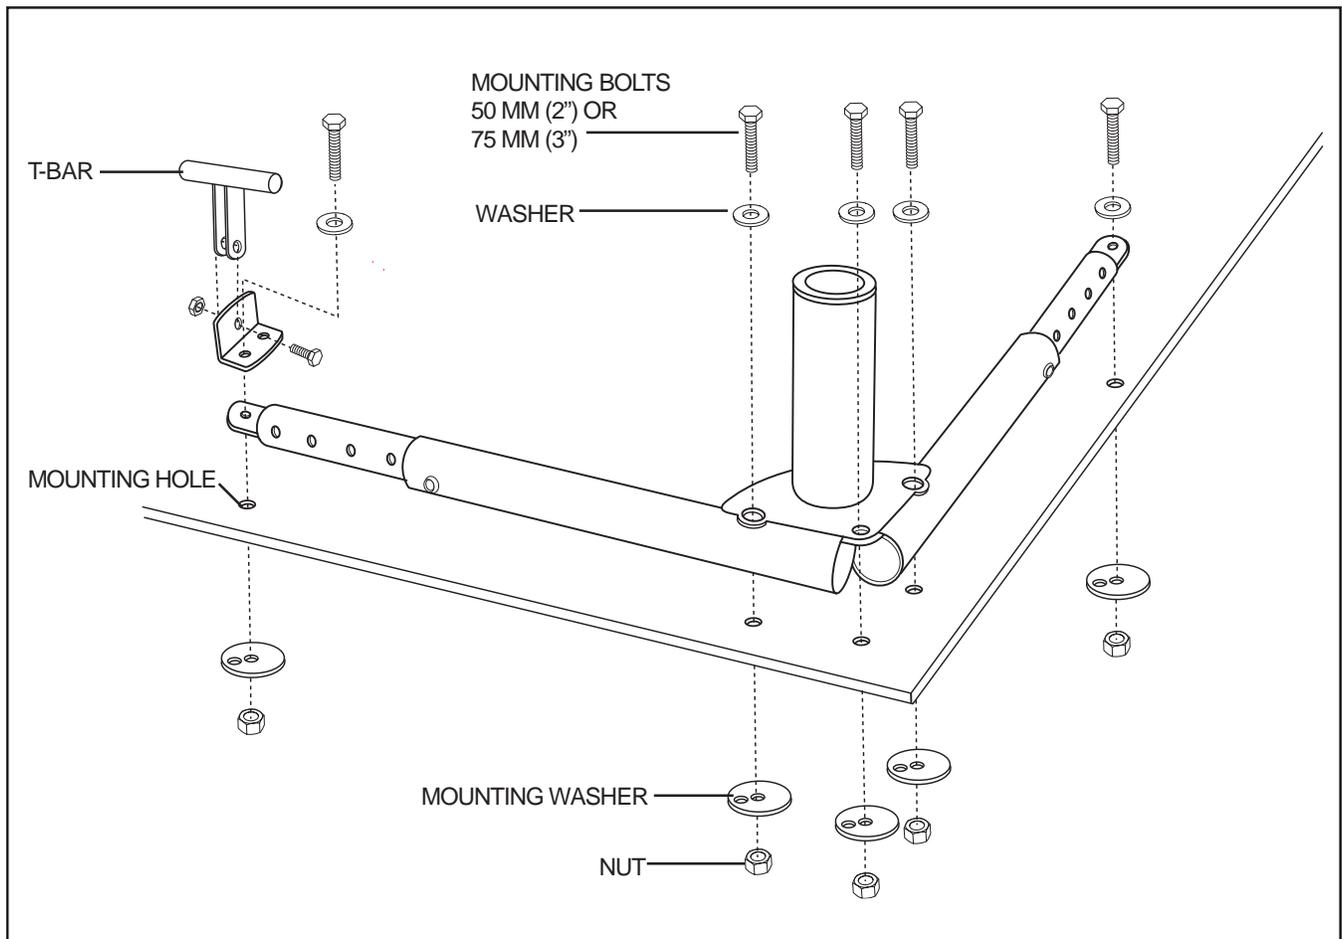

Figure 9. Securing The L-Base
1. Inspect the undercarriage of the vehicle where the lift L-base is located for obstructions that may hinder the installation of the five (5) mounting bolts that will secure the L-base to the vehicle. Obstructions may consist of electrical wiring, gas tank, bumper mounts, or exhaust pipes. You may need to adjust the base extensions to clear obstructions. If possible, install the L-base with the base extensions fully extended. See **figure 9**.
2. If all is clear under the L-base, mark the position of the five (5) mounting holes and drill them using a 3/8-in. drill bit. Drill all mounting holes from inside the vehicle. **See figure 9.**
4. Position the T-bar on the end of the base support that runs parallel with the rear of the vehicle, and install a mounting bolt and washer through it and the L-base. **See figure 9.**
6. From under the vehicle, install the mounting washers and nuts to all five (5) mounting bolts and tighten. **See figure 9.**